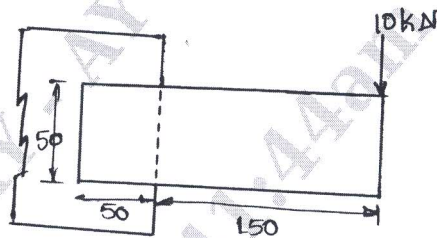

Fig.Q6(b)
b. A welded connection of steel plates as shown in Fig.Q6(b) is subject to an eccentric load of 10 kN. Determine the throat dimension of weld, if the permissible stress is limited to  $95 \text{ N/mm}^2$ . Assume static conditions.